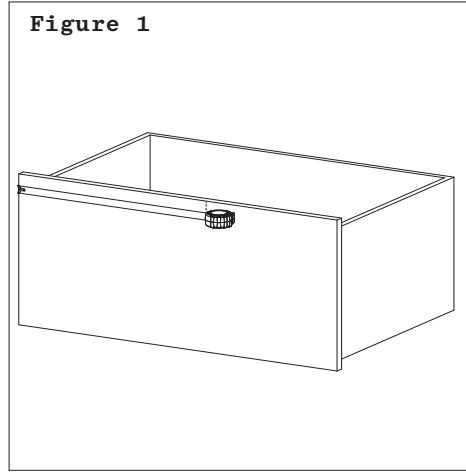

Figure 1
1. Select the place of installation. (Figure 1)